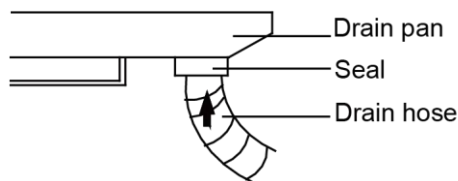

Figure 3-1-33
- (1) For determining the position of the drain hose, perform the following procedures.
- (2) Insert the drain pipe to the drain outlet of the unit and then tighten the clamp securely with tape. (Figure 3-1-33)
- (3) Connect the extension drain pipe to the drain pipe and then tighten the clamp with tape.